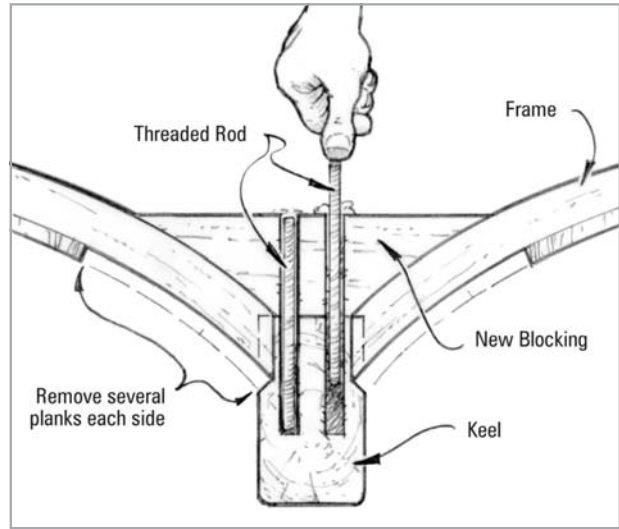

Figure 4-11 Bond threaded rod through the blocking and at least 3" into the keel.
10. Push the coated rod to the bottom of the filled hole (Figure 4-11). Fill the holes to the top as necessary. Clean up excess epoxy before it cures.